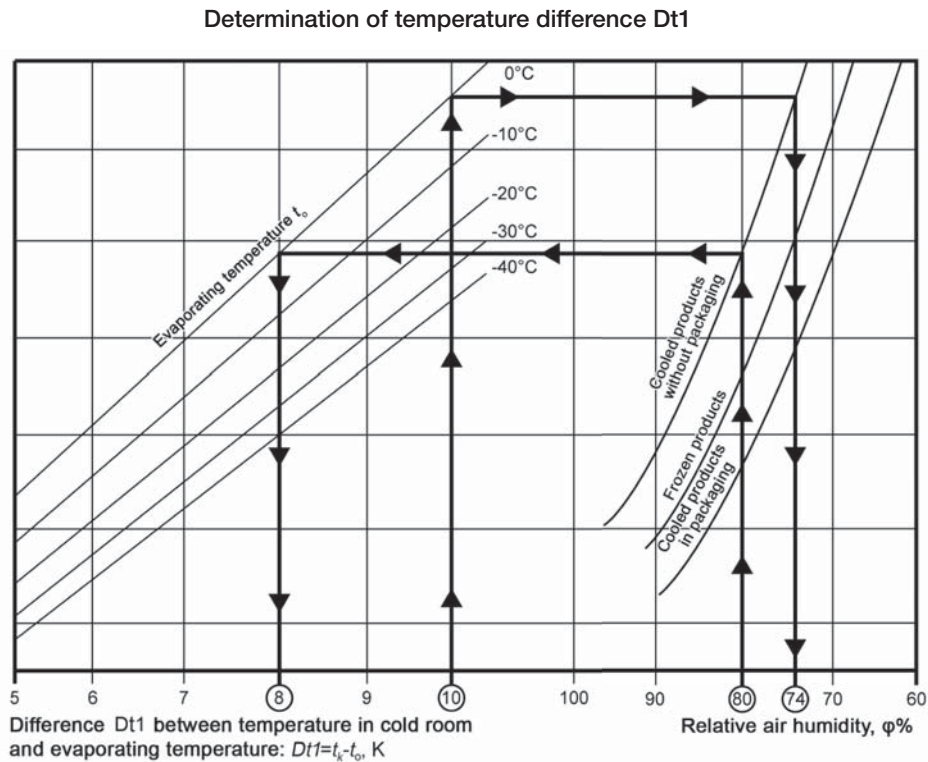

Fig. 1
Figure 1 represents the diagram for determination of the temperature difference Dt1 needed to maintain the required relative air humidity.
Find a point corresponding to 80% relative humidity; this point is situated in the right part of the horizontal axis (see Fig. 1). Draw a line, perpendicular to the horizontal axis, starting from the point $\phi=80\%$ to the intersection with the curve "Cooled products without packaging"; then draw a horizontal line to the intersection with the line t_e corresponding to 0°C (this intersection is on the left side of the diagram). In the left part of the horizontal axis, you can find a temperature difference value equal to 8K.
1. According to the diagram shown in Figure 1, determine the required temperature difference: $\Delta T_1 = 7\text{ K}$;